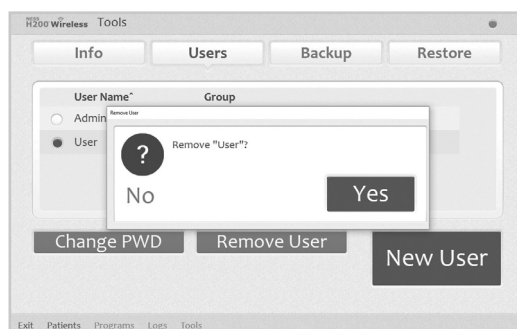

Figure 8-42: Remove User Confirmation Window
3. A confirmation message will appear. See Figure 8-42. Press Yes.